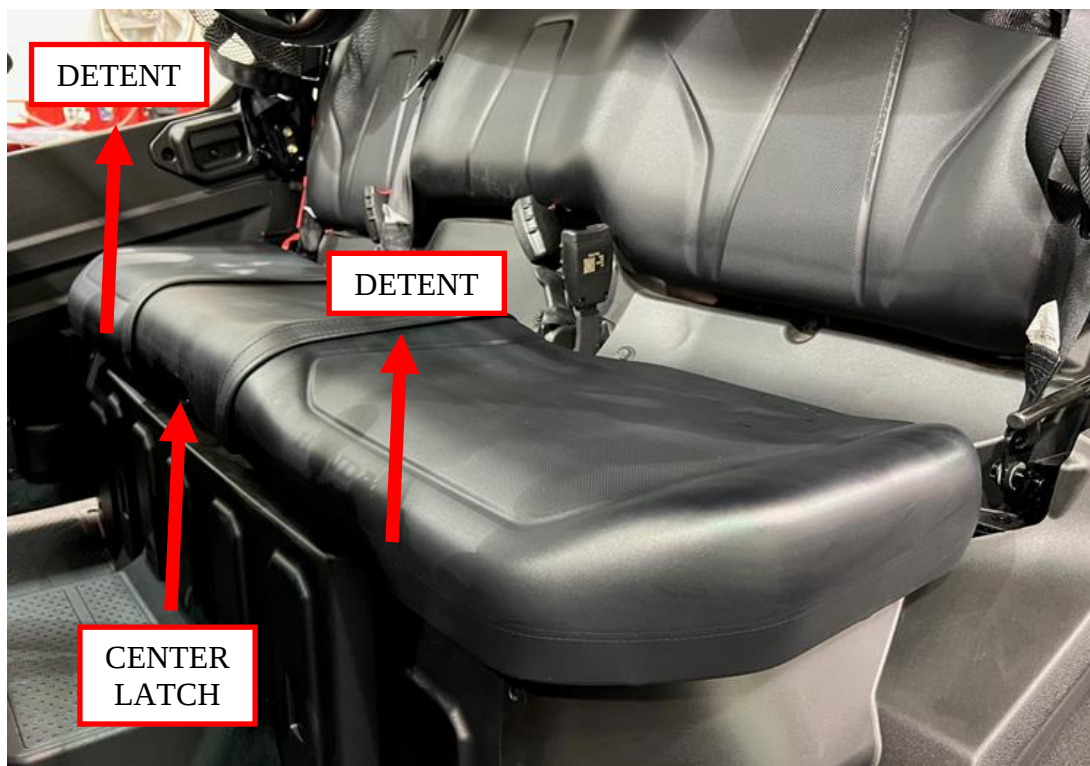

Figure 8: Remove the front seat.
6. Remove the front seat by releasing the center latch, pulling up around the front edge to release the detents, and unhooking the back edge under the back rests. See Figure 8.